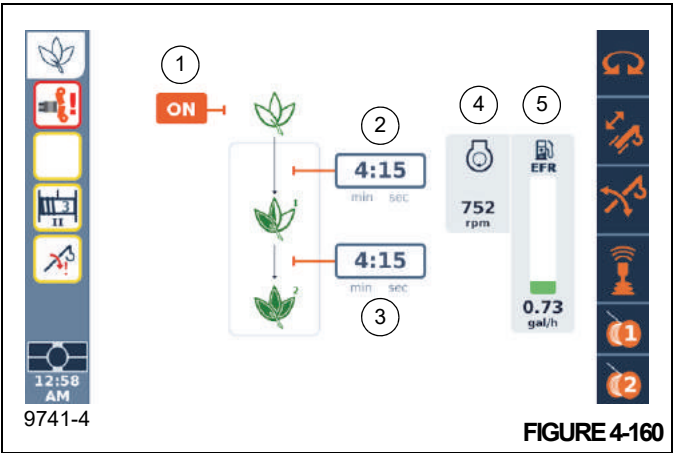

FIGURE 4-160
The ECO Mode function screen (Figure 4-160) allows the operator to set the ECO Mode function to on or off. The function screen also allows the operator to specify the lengths of time of crane function inactivity before the crane's engine speed is reduced from the working engine speed to the two idle speeds.
The ON/OFF icon (1, Figure 4-160) is used to set the ECO Mode function to on or off.
- Engine speed will automatically decrease to the idle speed of 950 rpm after all craning functions have stopped (controllers in neutral position) and the time period that was specified in the Idle Speed 1 Time Delay Setting (2, Figure 4-160) has past.
- Engine speed will automatically decrease to the idle speed of 800 rpm after all craning functions are disabled and the time period that was specified in the Idle Speed 2 Time Delay Setting (3, Figure 4-160) has past.
1. Press the Screen Toggle Button (1, Figure 4-161) at the Jog Dial to select the ODM screen control. Using the Jog Dial (2, Figure 4-161), select one of the time delay number fields (box around number will turn orange, Figure 4-160), then press the Jog Dial (2) (number will turn white with orange background).
Using the Arrow Buttons (3, Figure 4-161) on the Navigation Control Pad at the ODM, select one of the time delay number fields (box around number will turn orange, Figure 4-160), then press the OK Button (4) (number will turn white with orange background).